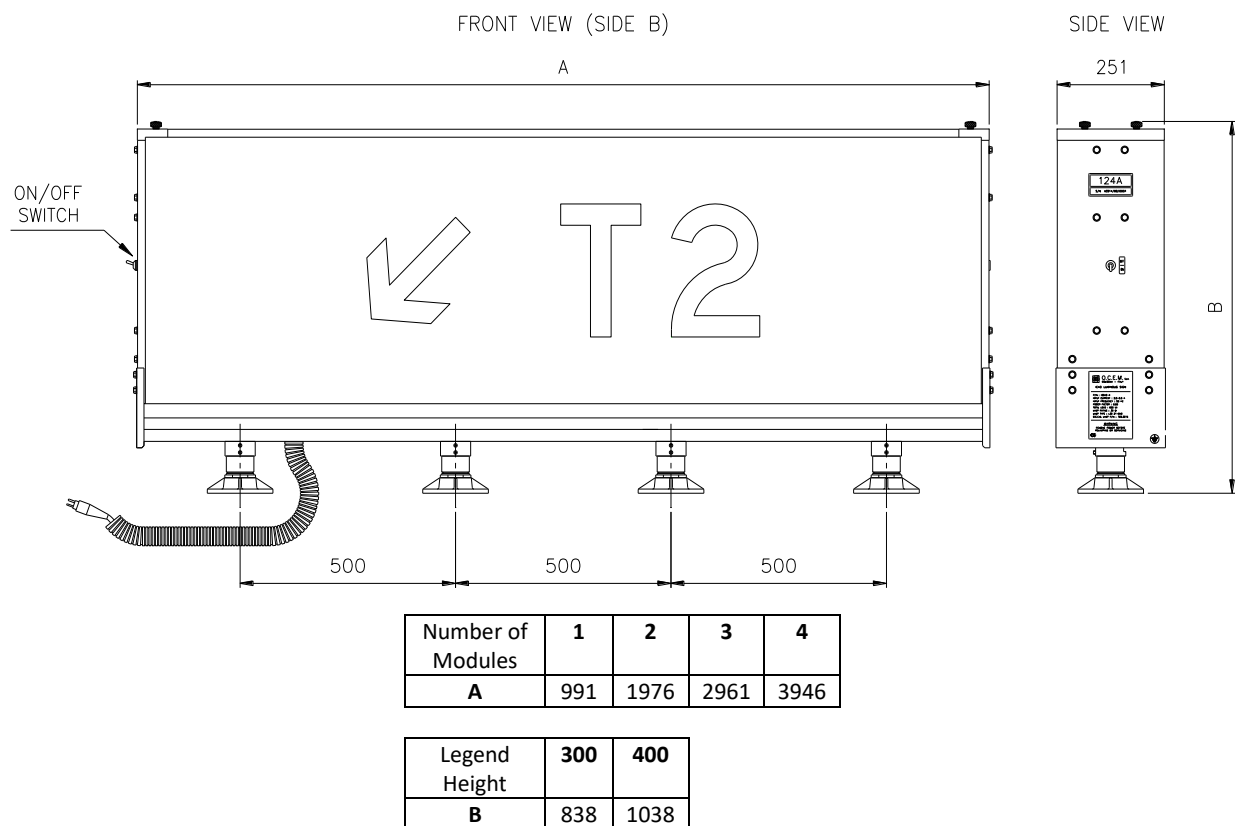

Figure 1 – Overall Dimensions
The signs practically include the following sections (See Figure 1 – Overall Dimensions)
- a) Take as reference Figure 1 – Overall Dimensions, for spacing between breakable couplings.